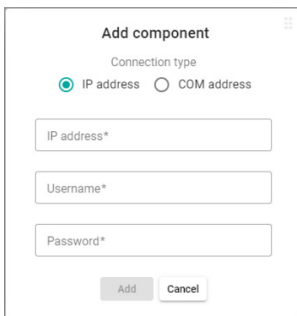

Fig. 5-3: Window *Add component*
- ▶ Window *Add component* opens (→ Fig. 5-3).